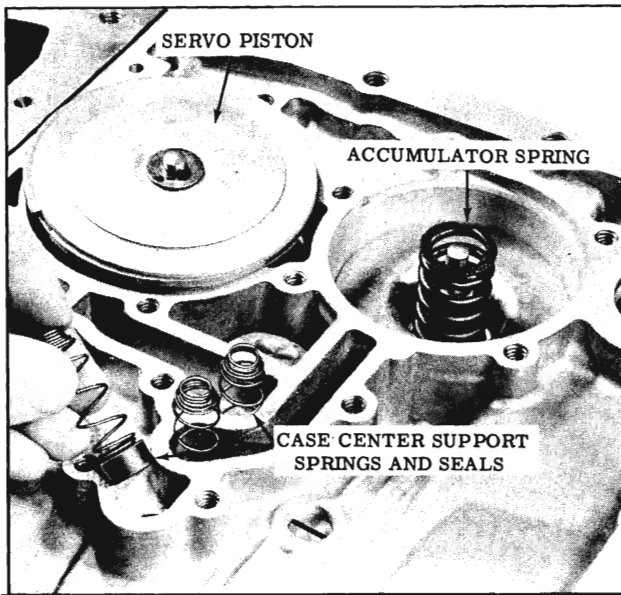

Fig. 3-24 Accumulator and Servo
12. Remove the servo piston assembly and the servo release spring from bore in case. (Fig. 3-24)
13. Remove the lower accumulator spring and piston. (Fig. 3-24)